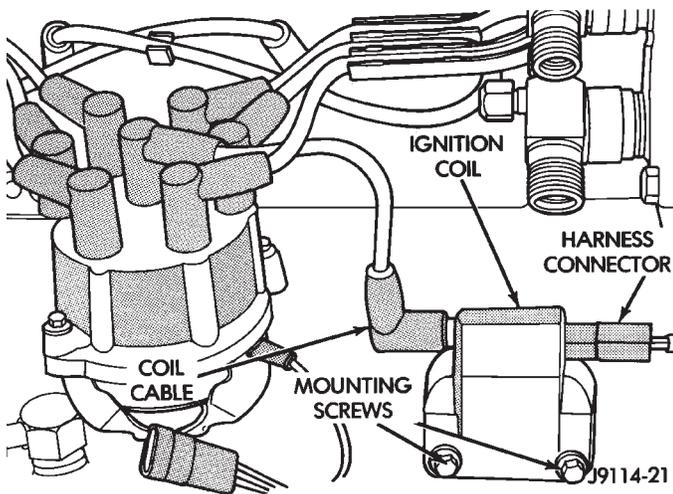

Fig. 14 Coil Harness Connector—Typical
(1) Unplug the ignition coil harness connector at the coil (Fig. 14).